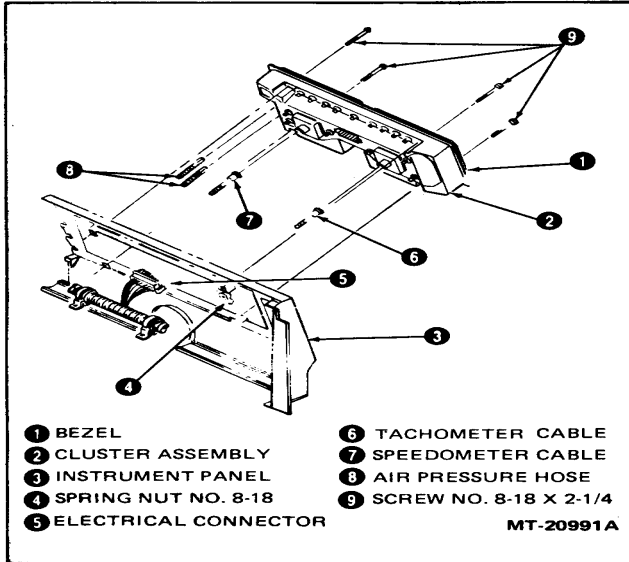

Figure 2-Removing Instrument Cluster
2. Tilt or lift out cluster assembly from instrument panel (Figure 2).